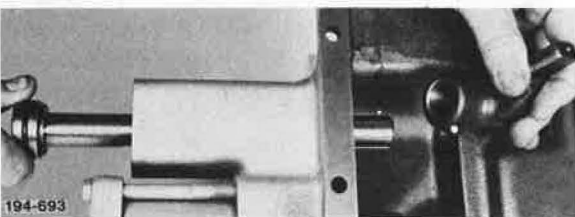

Figure 249. Installing Shift Rail and Shifter
20. Slide reverse shift rail into shift cover and, at the same time, install reverse shifter. See Figure 249.